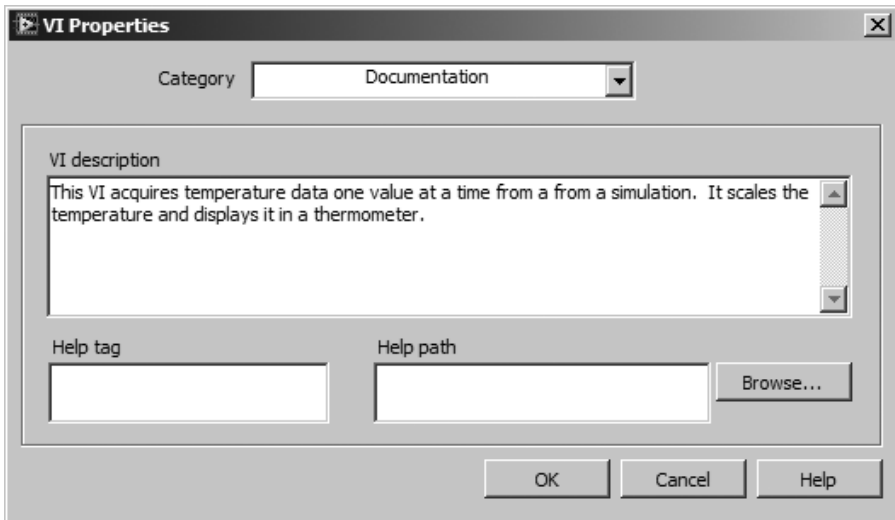

Figure 5.30
6. Document **Thermometer.vi** by selecting **VI Properties . . . >>Documentation** from the **File** menu or by selecting **VI Properties . . .** from the icon's pop-up menu, and typing in a description of what it does, as shown in Figure 5.30. Click OK to return to the main VI.